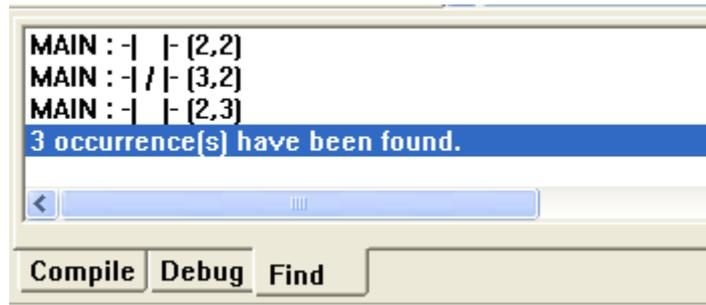

Fig.2.40 Global find result
**【Global Find】** or toolbar  button, the specific locations and total number of finding contents will output in this window. As shown in Fig.2.40: